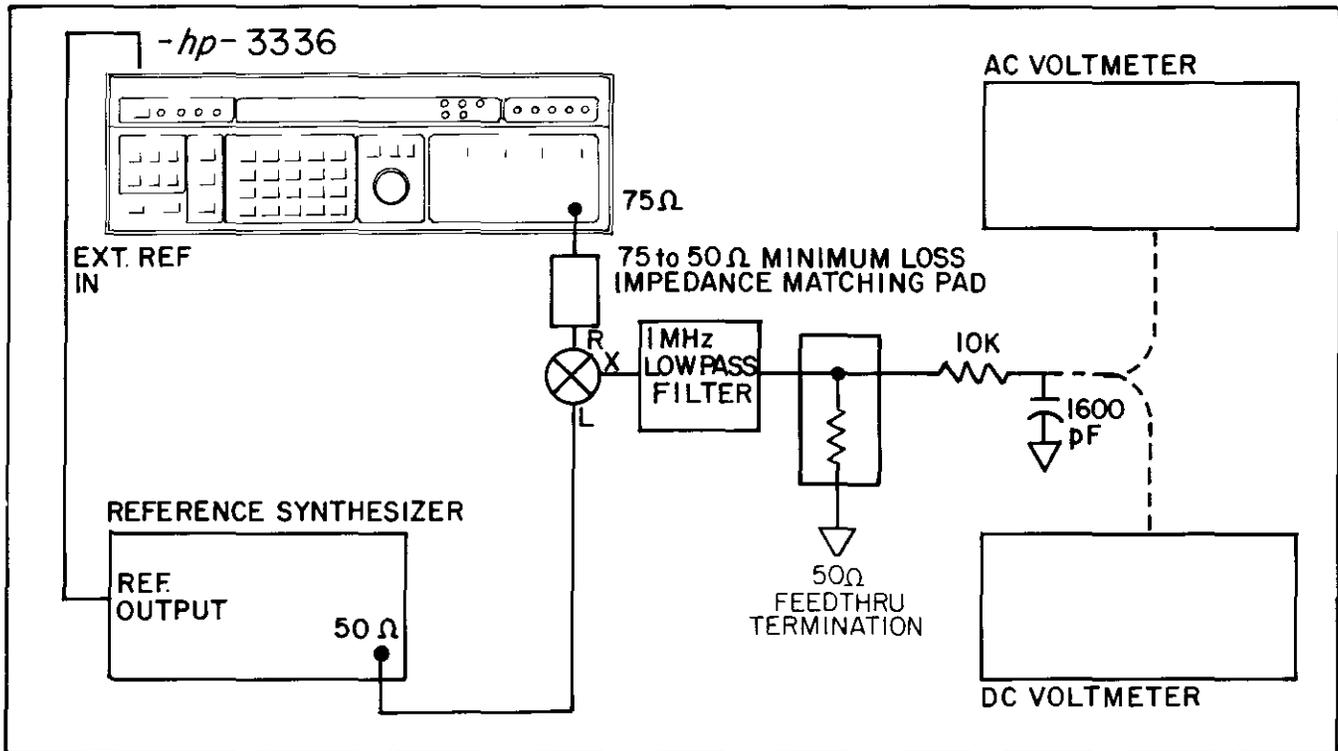

Figure 4-14. Integrated Phase Noise Equipment Set Up.
- a. Connect the equipment as shown in Figure 4-14. Make sure that the frequency references of the 3336 and the reference synthesizer are locked together.